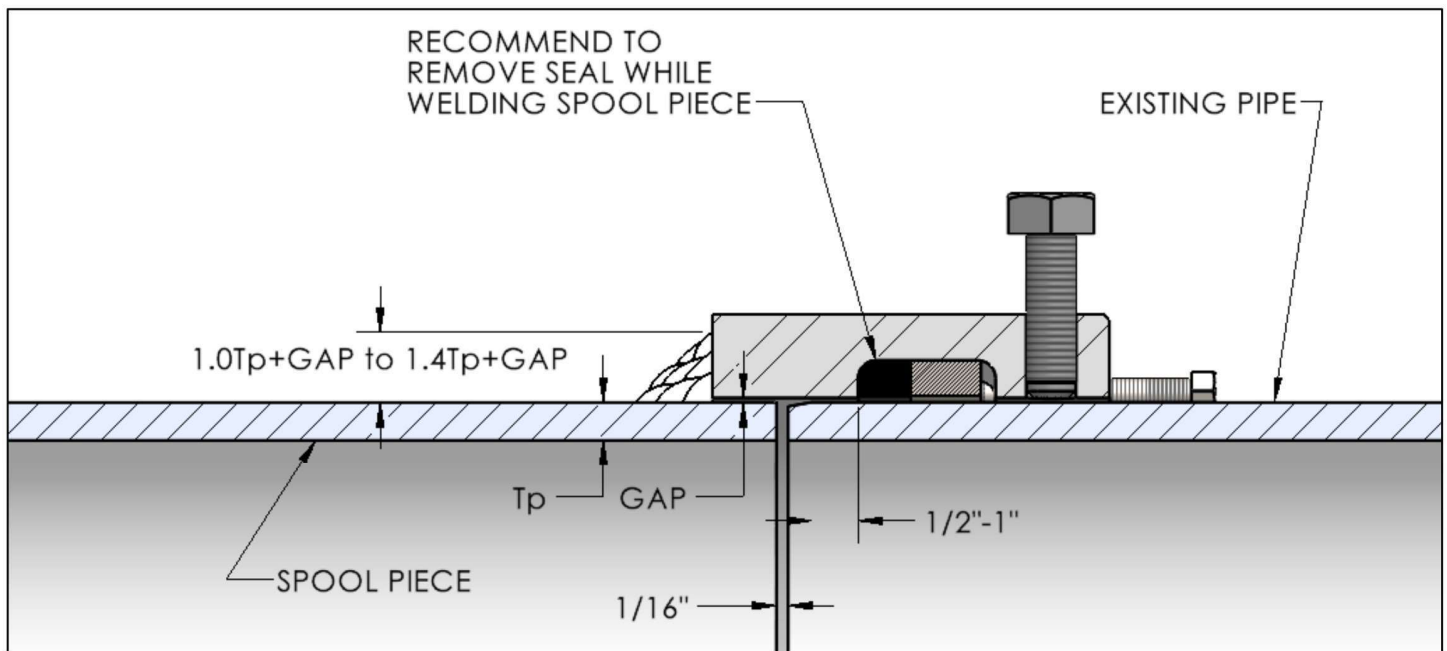

Figure 2
3. Verify that the location of the spool piece attachment to the Half Weld+End will ensure that the seal lands on smooth pipe and there is adequate room for the pipe that will be inserted into the mechanical end. The seal should have a minimum of $\frac{1}{2}$ " (12.7mm) – 1" (25.4mm) from the start of the pilot bevel as shown in Figure 2.
4. Remove the elastomeric seal to avoid damaging the seal while welding the Half Weld+End to the spool piece. When replacing the seal after welding, it must be positioned on the inside of the metal thrust ring. Also note the placement of the radius on the seal as shown in Figure 2. DO NOT place the seal back in until the fitting has cooled down to under 100° F.
3. Slide the Half Weld+End with the pipe to which it is welded over the end of the pipe to which it will be mechanically joined until it bottoms out on the welded pipe. Then back the Half Weld+End away from the welded pipe approximately 1/16 inch as shown in Figure 2. Note that the end of the pipe or the start of the pilot bevel on the mechanical end must be beyond the seal groove by 1/2 inch to 1 inch as shown in Figure 2.